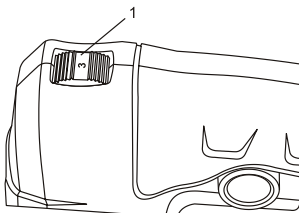

Fig. 7
Set the jigsaw speed by rotating the variable speed control wheel (1) to the appropriate speed (Fig. 7). Rotating the variable speed control wheel toward the rear of the jigsaw will result in slower speeds. Position the speed control dial at "1" for the slowest speed, "3" for medium speed and at "6" for the highest speed.